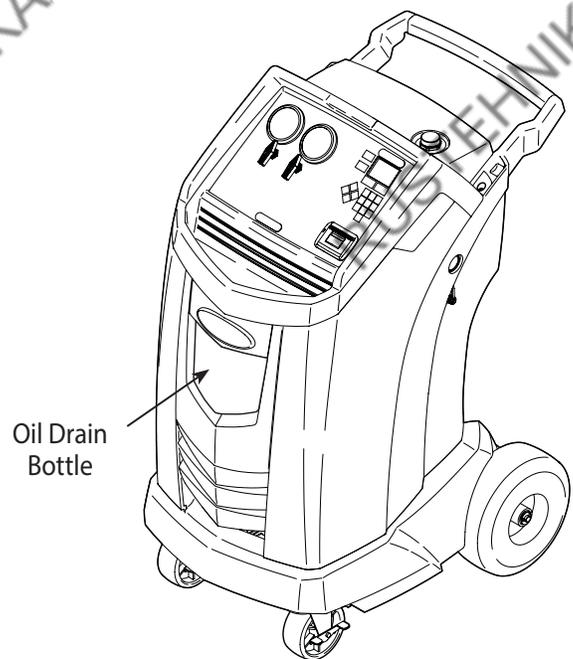

Figure 6
3. Remove the oil drain bottle (see Figure 6) from the Robinair machine. Drain the oil bottle, and dispose of the oil according to regulations in your area. Reinstall the oil drain bottle on the machine.